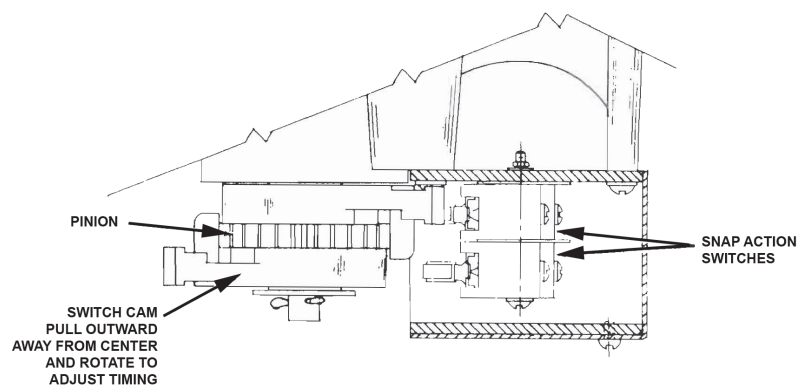
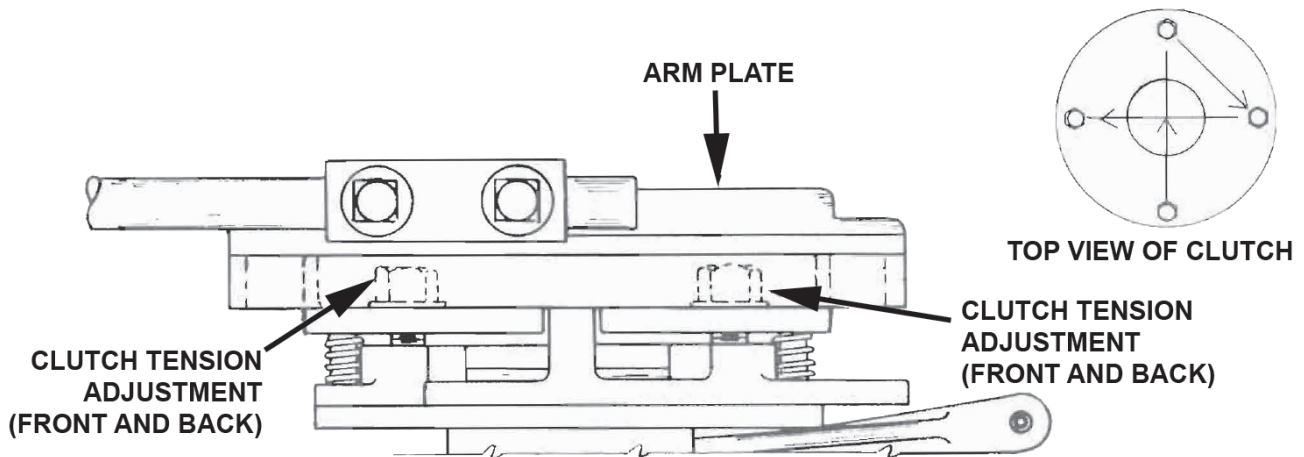

Figure 7. Adjusting Limit Switch
Figure 8. Adjusting Clutch
(a) Release the arm late by pulling down on the clutch release chain located on the side of the operator. To keep the arm plate disengaged, insert a wedge of some sort between the clutch yoke the chain is connected to and the bottom of the clutch. Check to see if the arm is free to rotate. (Figure 8)
(1) Loosen the four clutch tension bolts and then drop the arm plate back into place on the clutch. Do not replace any other items at this time.
(2) To adjust the limit switch, (Figure 7), manually open the door to within 6 inches of its fully open position, at the same time allowing the clutch to slip. At this point, determine which snap action switch would shut the operator off. Pull outward on the cam in line with that switch and rotate it toward the switch and over it just far enough to shut operator off. Cam must be rotated in the same direction as the crank arm is rotated to open door. The cam should also be re-engaged with the center pinion at this point.
(3) Manually close the door to within 6 inches of its fully closed position. Pull outward on the other cam and rotate it toward and slightly over the other snap action switch. Cam must be rotated in the same direction as the crank arm is rotated to close door and must be re-engaged with the center pinion.
H. SETTING THE CLUTCH (Figure 8)
(1) Remove the arm plate and tighten down the four clutch tension bolts evenly (see Figure 8) until the friction is sufficient enough to operate the door. Never tighten the bolts so that the clutch cannot be slipped by forcing the end of the crank arm, and never adjust bolts consecutively, but always directly across from each other so as to provide even tension. An equal turn of each bolt is a very important adjustment procedure.